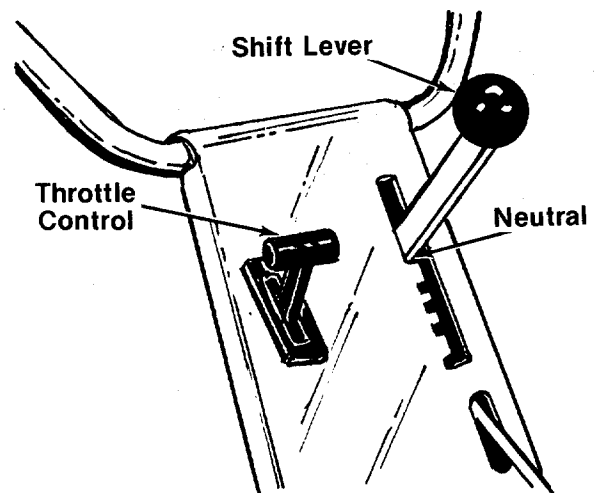

FIGURE 14.
1. Place the shift lever in the neutral (N) position. See figure 14.
3. Move throttle control lever forward to "START" position. See figure 14.